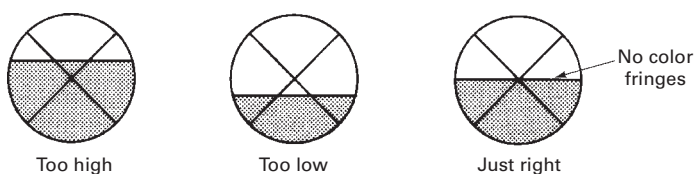

FIGURE 29.3 Your sample through the lens of the refractometer.
5. Look for a split optical field of light and dark (Fig. 29.3). This may not be very distinct. You may have to raise or lower the light source and scan the sample a few times.